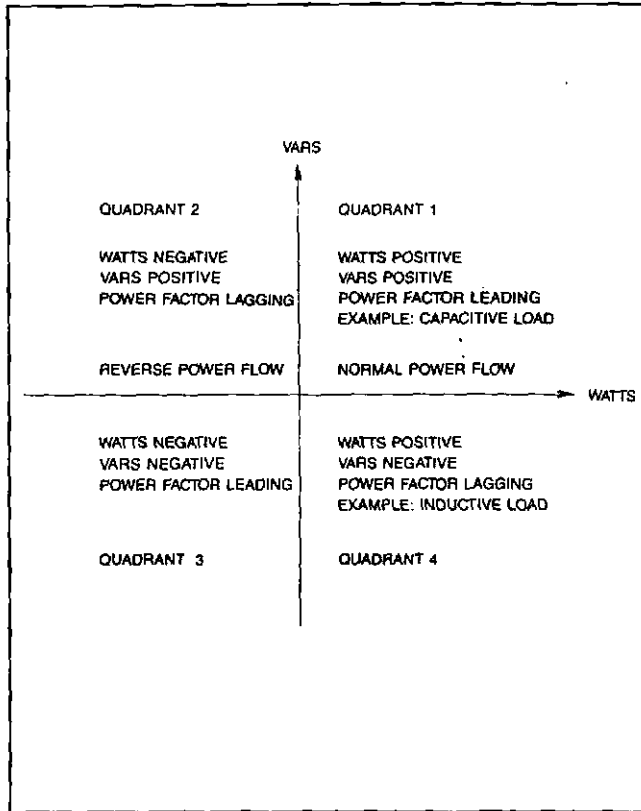

Figure 3.2 Power Quadrants
**3.2.1.1 Blinking LEDs: Watts, Vars and/or Power Factor —** To display reverse power flow, lagging (negative) power factor, and negative var, the menu select LED being viewed will blink. If it is not blinking the values are positive (leading). Refer to Figures 3.2, 3.3, 3.4 for a further explanation.